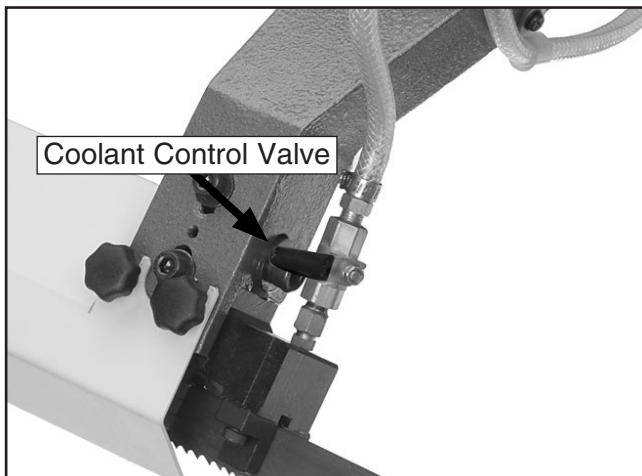

Figure 26. Coolant control valve.
- Adjust the valves on the coolant hoses to control the flow of coolant (see **Figure 26**). Make sure that the pressure is not so high that coolant spills on the floor and creates a slipping hazard.